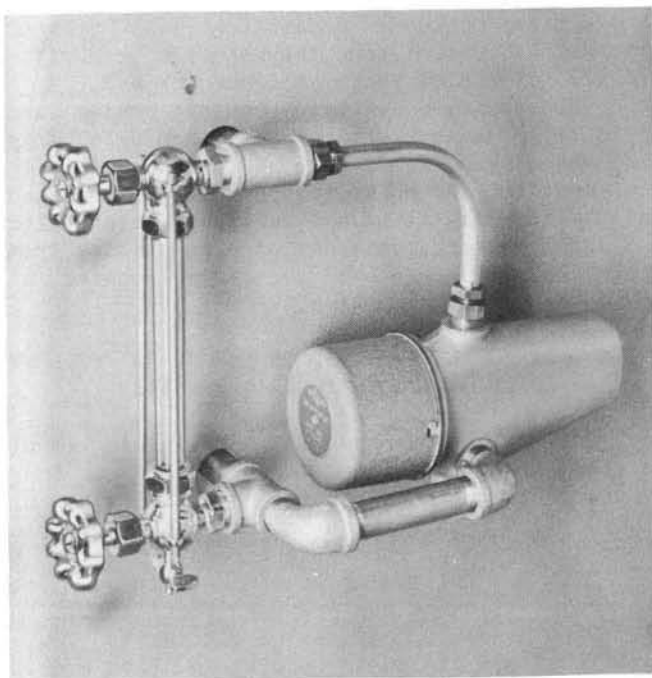

Figure 9. Low Water Cut-Off
32. Finish mounting all controls required for hot water or steam boiler (see figure 9) and connect up to distribution system. Fill system with water, drain, and refill. See Section "J".